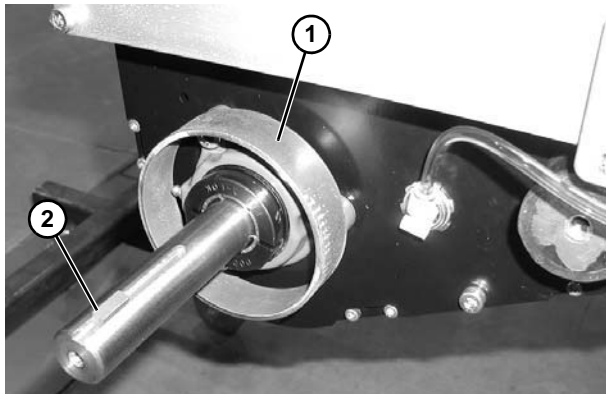

Figure 117
4. Remove spacer ring (Figure 117, item 1) and key (Figure 117, item 2).